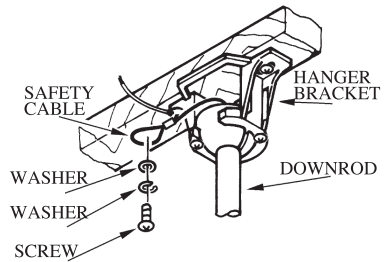

FIG.7
- Install the safety cable into the building structure. (see fig.7)